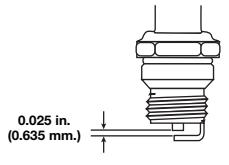

Fig. 38
The recommended clearance for both intake and exhaust is .003 -.006 in. (.076 - 0.152 mm). Use a standard automotive .005 in. (0.127 mm) feeler gauge. The feeler gauge should slide between the rocker arm and valve stem with a slight amount of resistance, without binding. Figure 38 and 39 show how to measure the clearance.
3. Replace cracked, fouled or dirty spark plug. Set the air gap at **0.025 in. (0.635 mm.)** using a feeler gauge (Fig. 38).